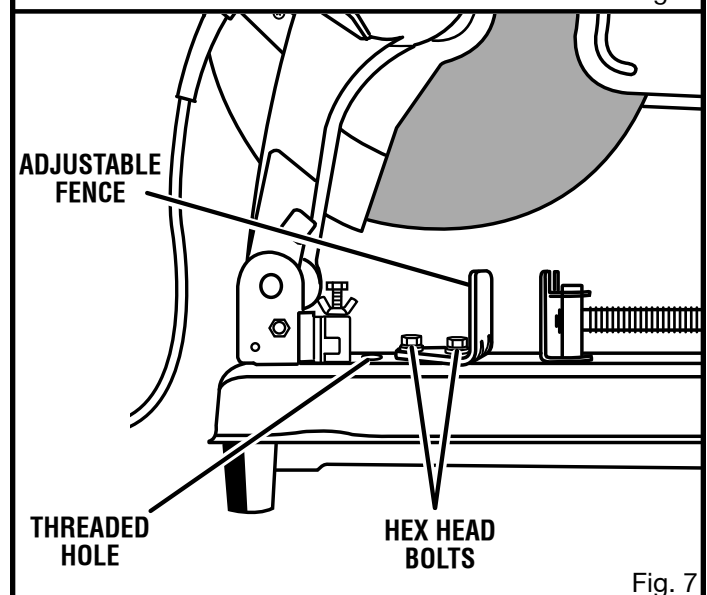

Fig. 7
- Using the hex wrench supplied, loosen the two hex head bolts securing adjustable fence. See Figure 7.
See Figures 7 - 8.